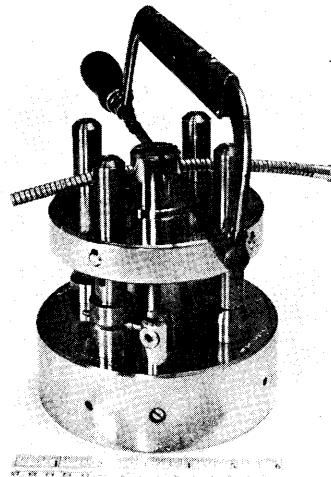

Figure 6c
d. If casing other than that supplied by A.R.C. is used, collapse (push back) a 1.5 foot portion of the casing to be used in the assembly. Mark off *exactly* one foot on the collapsed casing. Now stretch this one foot portion with about a 15 pound pull with the hands and measure the increase in length between marks. Next stretch with a 15 pound force somewhat more casing than will be used and mark the *stretched out* casing longer than the shaft length by one-half the increase measured above, for each foot of shaft length. From the length thus determined, subtract one inch and saw casing as in Figure 6c. The above method of determining casing length is made necessary by varying amounts of "accordion" action in the different manufacturing lots. If casing supplied by A.R.C. is used, it is only necessary to stretch casing with a 15